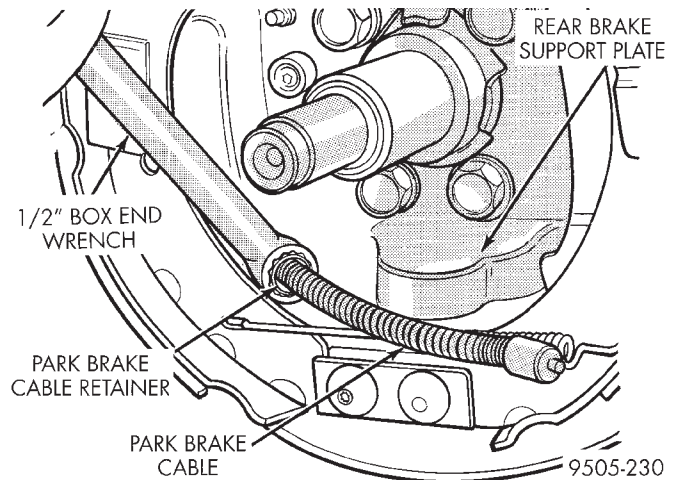

Fig. 78 Removing Park Brake Cable From SupportPlate
(7) Position a 1/2 wrench over the retainer fingers on the end of the parking brake cable (Fig. 78). Compress cable housing retaining fingers and start cable housing out of support plate (Fig. 78). Remove wrench when retainer is free from the park brake cable mounting hole in the rear brake support plate. Alternate method is to use a aircraft type hose clamp over cable housing end fitting compressing the three fingers.